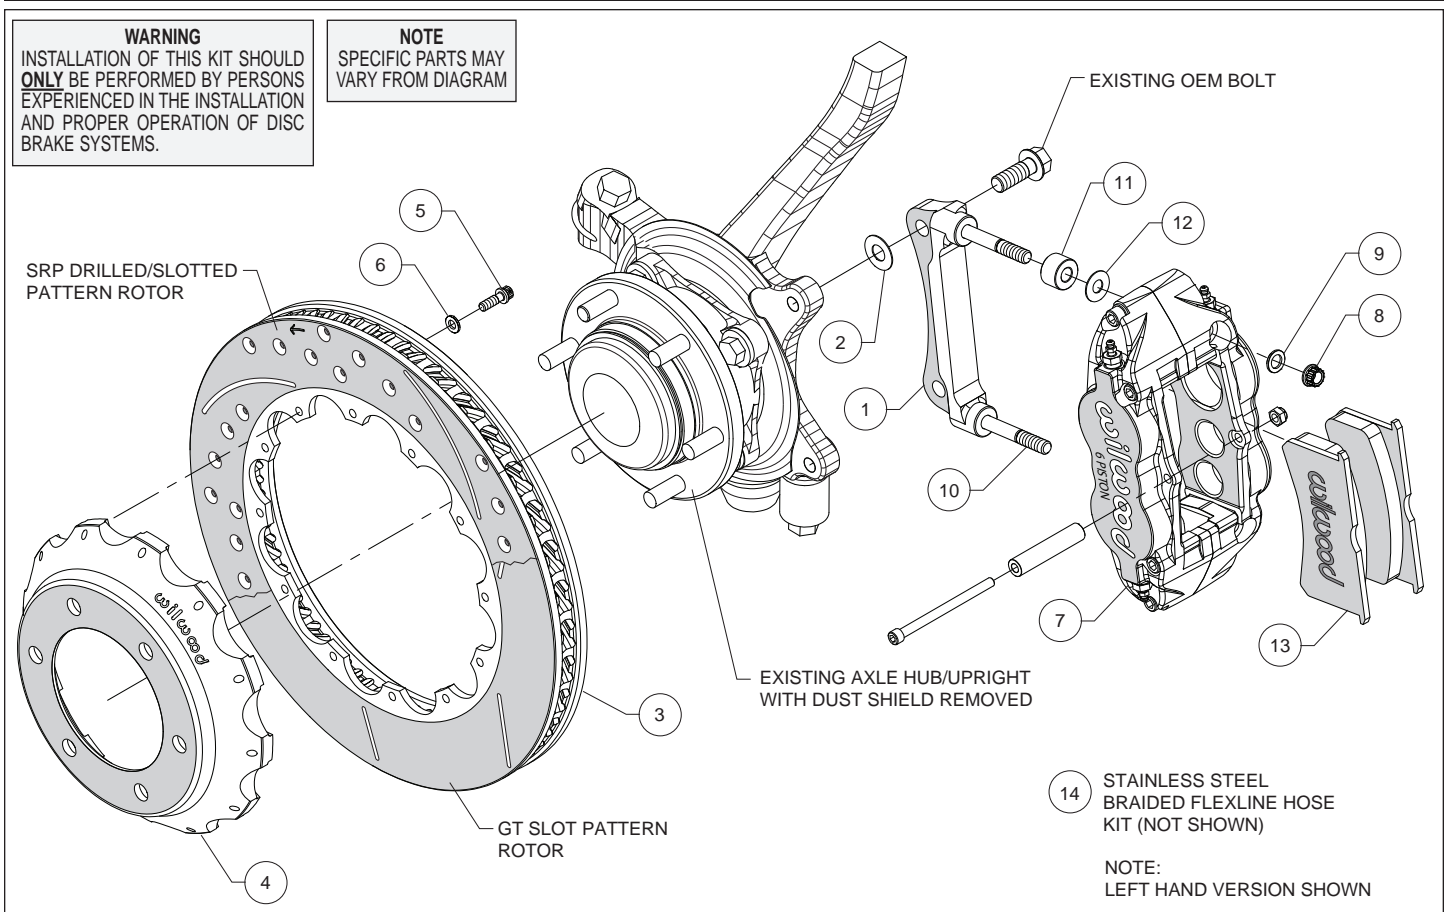
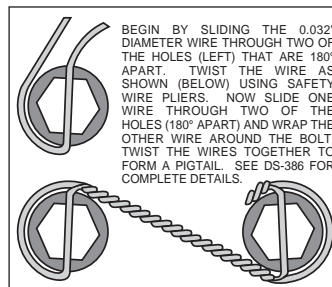

Figure 1. Typical Installation Configuration
Figure 3. Safety Wire Diagram
**Assembly Instructions** (numbers in parenthesis refer to the parts list and Figure 1 on the preceding pages):
- The caliper mount bracket (1) should initially be installed with clean, dry threads on the mounting bolts. Orient the bracket as shown in Figure 1 and Photo 2 and install using saved OEM mount bolts. Initially place one .033" thick shim (2) on each bolt between the bracket and upright, Figure 1. Temporarily tighten the mounting bolts. **NOTE:** The bracket must fit squarely against the mounting points on the upright. Inspect for interference from casting irregularities, machining ridges, burrs, etc. Later, after the caliper alignment has been checked, the mount bolts will be secured using red *Loctite*® 271.
- Orient the rotor (3) and the hat (4) as shown in Figure 1 and Photo 3. Attach rotor to hat using bolts (5) and washers (6). Using an alternating sequence, apply red *Loctite*® 271 to the threads, and torque to 155 **in-lbs**. For an added measure of security, the bolts may be safety wired using standard 0.032 inch diameter stainless steel safety wire as shown in Figure 3. Please refer to Wilwood's data sheet DS-386 for complete
- NOTE:** This kit contains distinct right and left hand calipers that must be mounted in a specific direction, as described below. Lubricate the caliper mounting studs (10) with lightweight oil. Initially place one spacer (11), and one .035" thick shim (12) on each stud between the caliper and the bracket, as shown in Figure 1 and Photo 6. Mount the caliper (7) onto the bracket (1) using lock nuts (8) and washers (9), Figure 1. Ensure that the caliper is mounted so the largest pistons are at the rotor exit end of the caliper, in relation to the direction of rotor rotation. Temporarily tighten the lock nuts and view the rotor through the top opening of the caliper. The rotor should be centered in the caliper, Photo 7. If not, adjust by adding or subtracting shims (2) between the bracket and the upright. Always use the same amount of shims on each of the two mounting bolts. Once the caliper alignment is correct, remove the bracket mounting bolts one at a time, apply red *Loctite*® 271 to the threads, and torque to manufacturer's specifications.